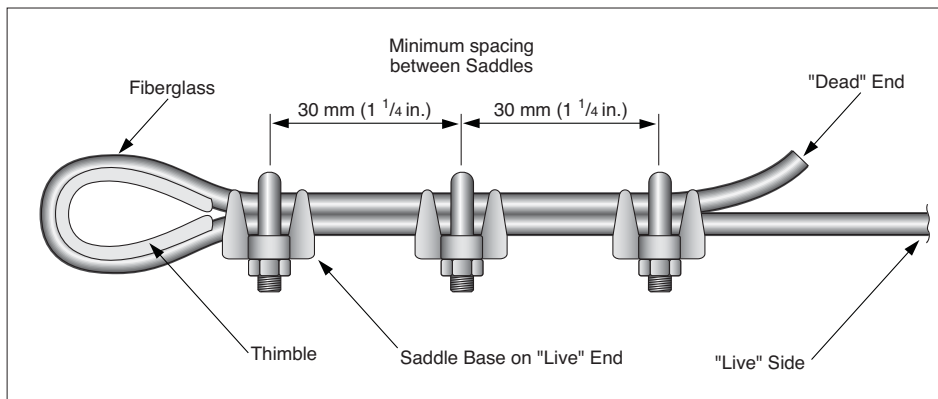

Figure 29: Correct methods of guying.
- Each of the guying kits comes with six stainless steel thimbles to relieve stress on the guys at the anchor points. These thimbles **MUST** be used when guying, (see figure 29).